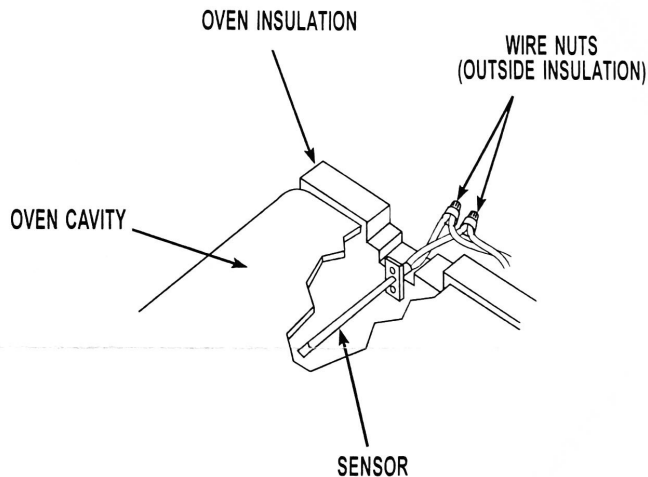

FIGURE 2
**IMPORTANT:** Make sure the wire nuts are completely through the insulation and not touching the back of the hot oven cavity. This can be accomplished by using a long, narrow screwdriver. (See Figure 2.)